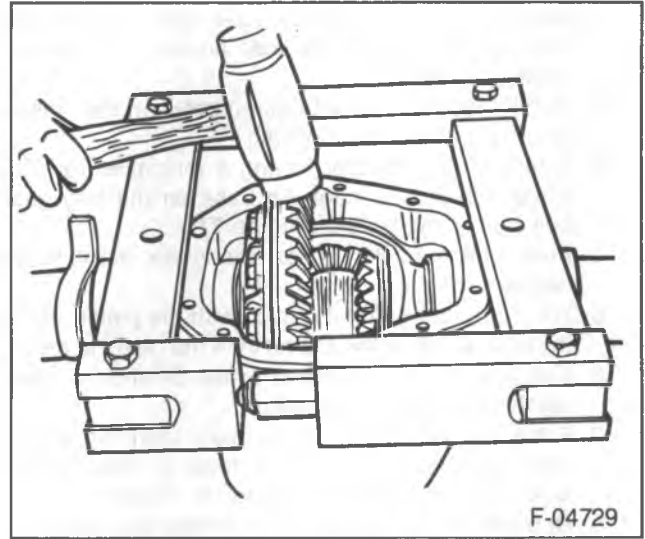

Figure 80—Installing the Differential Case
16. Place the bearing cups (20) onto the bearings.
- Use a rawhide hammer to seat the differential assembly in the axle housing (figure 80).
19. Install the bearing caps (18) in their original positions.
20. Install the bearing cap bolts (19).
18. Place the bearing cups (20) onto the bearings.
19. Install the differential assembly into the carrier (figure 80).
20. Drive the outboard spacers (43) into the proper sides using C-4205 and C-4171.
22. Install the bearing caps (18) in their original positions.
23. Install the bearing cap bolts (19).